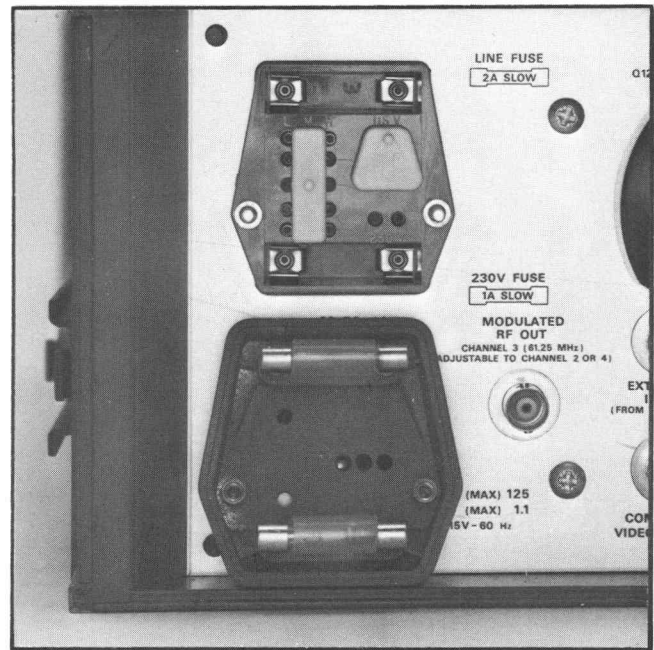

Fig. 2-1. Line Voltage Selector Assembly (shown with cover removed).
3. To change nominal line voltage selections, pull the Voltage Selector (see Fig. 2-1) until its pins are free of the sockets, turn the selector 180° and reseat the pins in the desired socket. Change the line cord power plug to match the power source receptacle.
4. To change regulating ranges, pull out the Range Selector switch bar (see Fig. 2-1) until its pins are free of the socket; slide it to the desired position and insert the pins into the socket. Select a range that is centered about the average line voltage to which the instrument is to be connected (see Table 2-1).